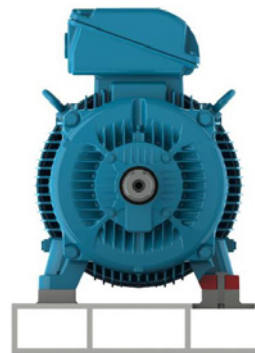

Figure 6.3 – Motor installed on a metallic base
- Metallic bases: are generally used for small-size motors (see Figure 6.3).